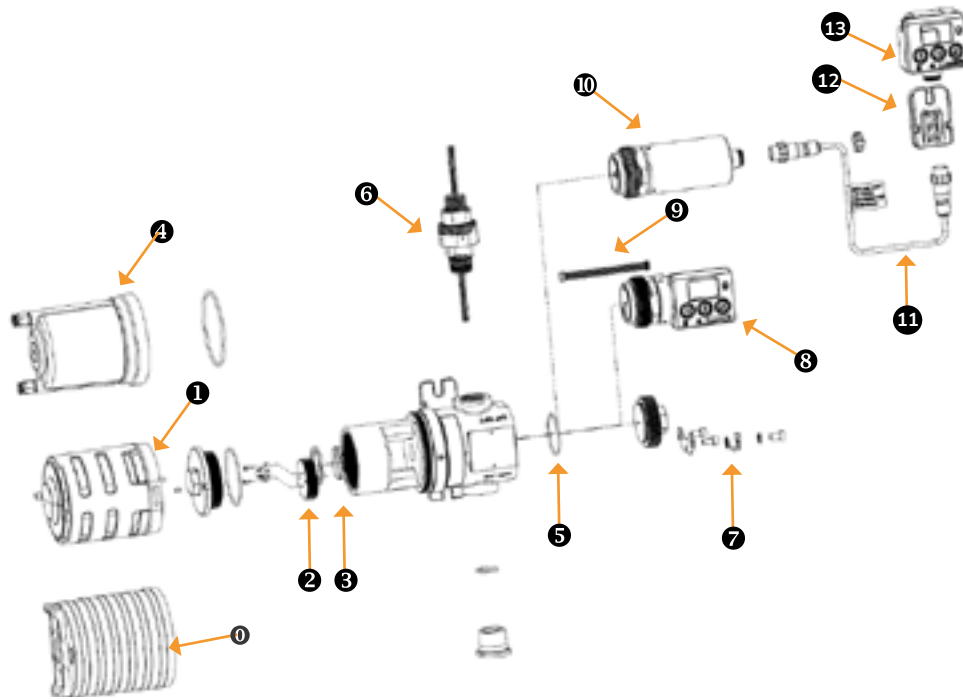

Figure 2: IR Plus exploded view
The display enables both local and remote monitoring of readings from the IR Plus. It can be directly attached to the IR Plus or connected via an Intrinsically Safe (IS) Barrier module using temporary or permanent cabling. Figure 2 illustrates the available options.
For more information about other accessories for the IR Plus, please refer to Figure 2.
- e. The retaining plate (item 7 on Figure 2) must be securely fitted to prevent any risk of the rear nut (or Fixed Display or IS Barrier module accessory) vibrating loose.
- a. Carefully remove the outer section of the spigot gland (Figure 2)